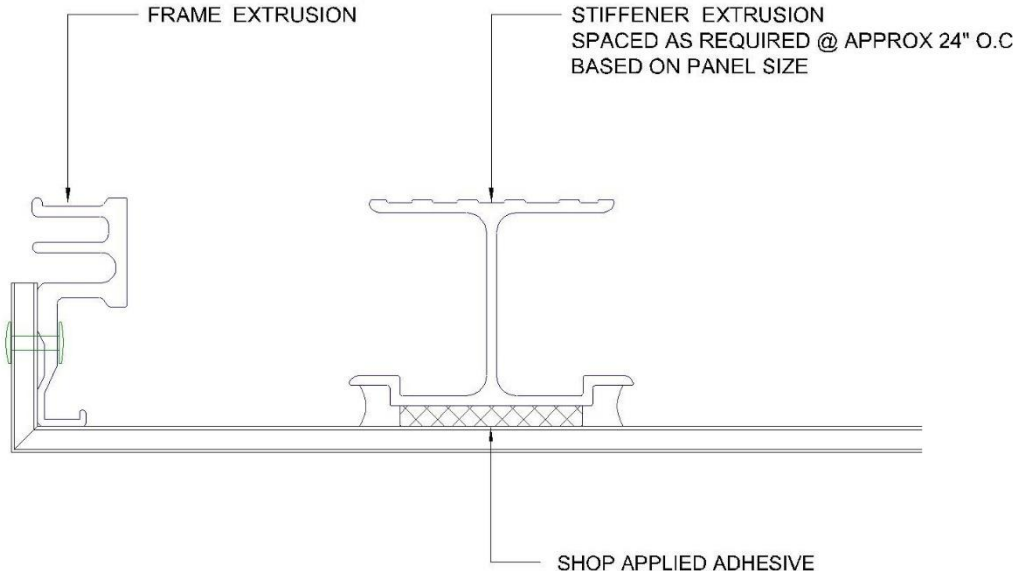

FIGURE 1—ASSEMBLY
- #8 self-drilling screws, hex washer head, 300 series stainless steel, inorganic coating (see Figure 1)
- 3/16 inch x 3/8 inch CSK aluminum rivet (see Figure 1)
**4.3.1 Rout and Return Installation:** The rout-and-return assembly consists of flat panels formed into shallow "pans" by means of routing a groove in the back face of the panel, along each panel edge, and mechanically folding all four edges. Additionally, the system's fabricator must install I-shaped extruded aluminum stiffeners (#12324PS) on the back of the panels, running the full panel width, parallel to the panel span at a maximum spacing of 24 inches (609.6 mm) on center. The stiffeners are also attached at each end to the frame extrusion. The stiffeners must be adhered to the panels using an approved structural silicone seal and adhesive complying with ASTM C1184. The panel length measured in the direction parallel to the stiffeners shall not exceed 5 feet (1.52 m). See Figure 1.
The assembly system A1000 Rainscreen System is the method of attachment. See Figures 1 and 3.